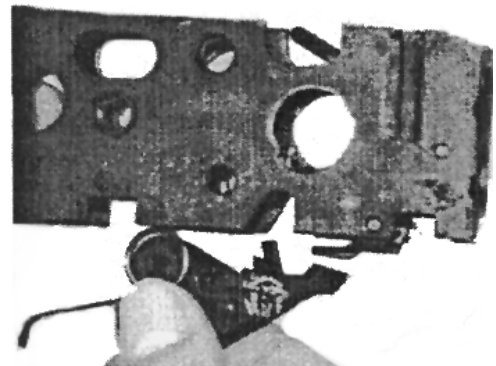
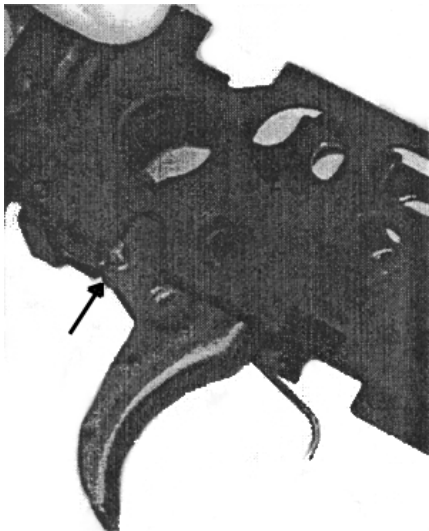

Figure 41
Figure 42
- With the trigger group front to your left, move the *trigger assembly* into the housing from the bottom of the housing (Fig. 41), assuring the right side (non notch side) of the *sear release latch axle* is just forward of the *stop latch* hook (Fig. 42).